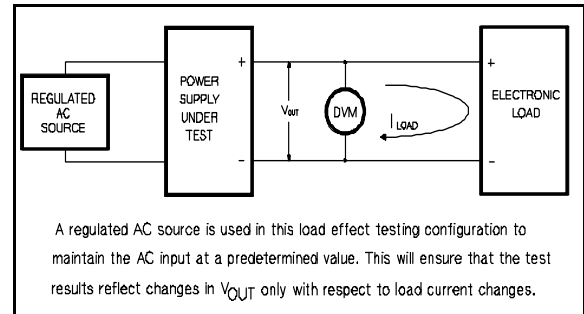

Figure A-5. Basic Test Setup
- a. Connect the test equipment across the output of the V1 supply as shown in Figure A-5. Operate the electronic load in constant current mode and set its current to 1.000 A. Input off the electronic load.
- b. Connect the test equipment across the output of the V1 supply as shown in Figure A-5. Operate the electronic load in constant current mode and set its current to 1.000 A. Input off the electronic load.
- Connect the test equipment across the output of the V1 supply as shown in Figure A-5, but replace the DVM with the oscilloscope. Operate the electronic load in constant current mode.
- Connect the test equipment across the output of the V1 supply as shown in Figure A-5.